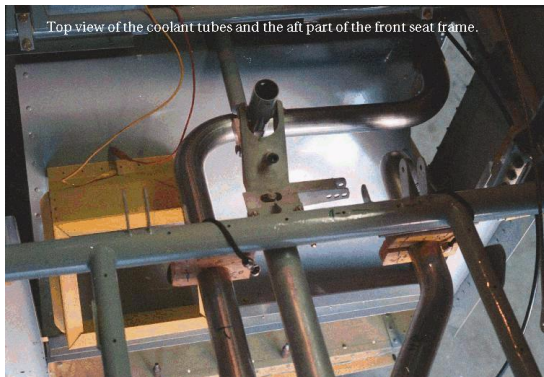

Figure 2.26. Advance Tube Engineering one-piece coolant tubes being installed in the aircraft. Note the joggle to clear the aileron controls.
welding in straight sections of tubing or chucking what's furnished and starting over. Several builders have had some one-piece tubes formed from 0.049" wall 303 stainless steel (Figure 2.26). This was done by Advance Tube Engineering in Huntington Beach, CA. (714) 847-7888. They charge \$120/set plus a \$150 set-up fee for small runs, so any builders that want to go this way should try to coordinate your orders with others. They still have the patterns; talk to the owner (Fiddy Alvarez) and ask for a set of S51 coolant tubes. If you make your own, be sure to put a joggle in your pattern so that the left tube will clear the aileron pushrod linkage lever.